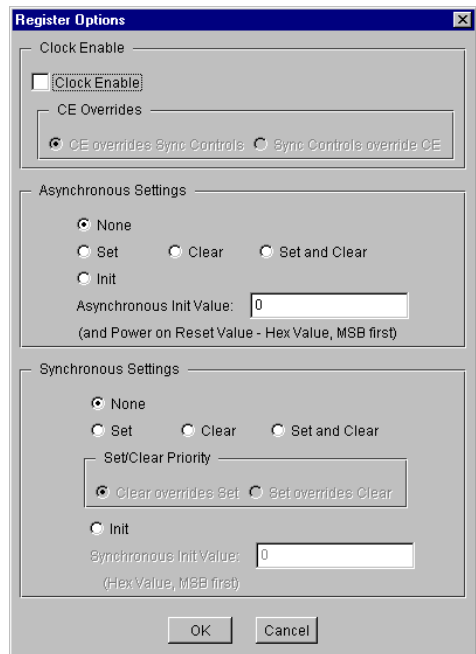

Figure 2: Bus Gate Register Options Parameterization Screen
- **Register Options:** This button is only enabled when a registered output has been requested via the **Output Options**. Clicking on this button brings up the Register Options parameterization screen (see figure 2).
The Register Options parameterization screen for this module is shown in Figure 2. The parameters are as follows: